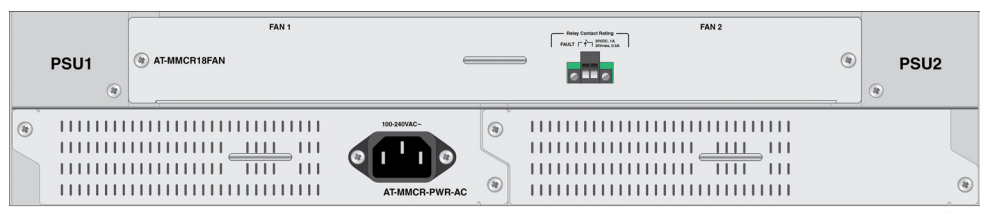
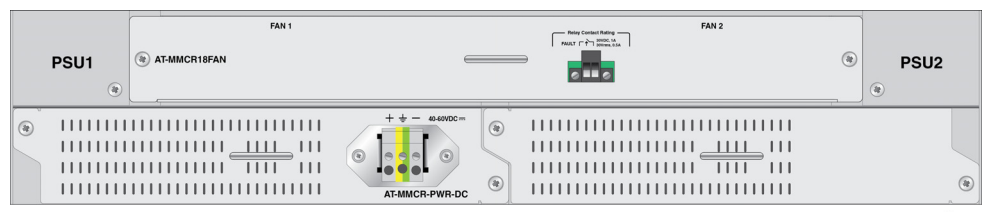

Figure 8. Inserting the AC Power Supply Unit into Slot A
Figure 9. Inserting the DC Power Supply Unit into Slot A
3. Insert the power supply unit into the power supply slot A. See Figure 8 for the AC power supply unit and Figure 9 on page 31 for the DC power supply unit.